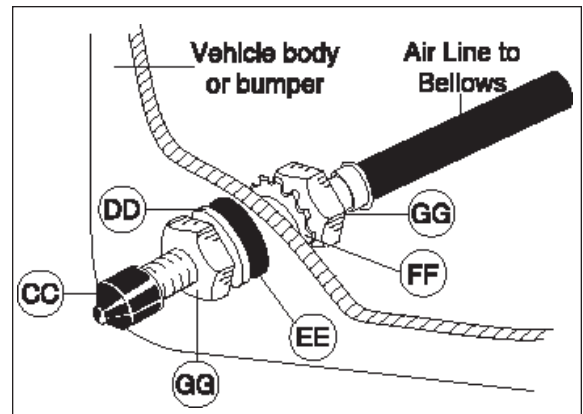

Figure 9
4. Place a $\frac{5}{16}$ " nut (GG) and a star washer (FF) on the air valve. Leave enough of the inflation valve in front of the nut to extend through the hole and have room for the rubber washer (EE), flat washer (DD), and $\frac{5}{16}$ " nut (GG) and cap (CC). There should be enough valve exposed after installation - approximately $\frac{1}{2}$ " - to easily apply a pressure gauge or an air chuck (Figure 9).
5. Push the inflation valve through the hole and use the rubber washer (EE), flat washer (DD), and another $\frac{5}{16}$ " nut (GG) to secure it in place. Tighten the nuts to secure the assembly in place (Figure 9).